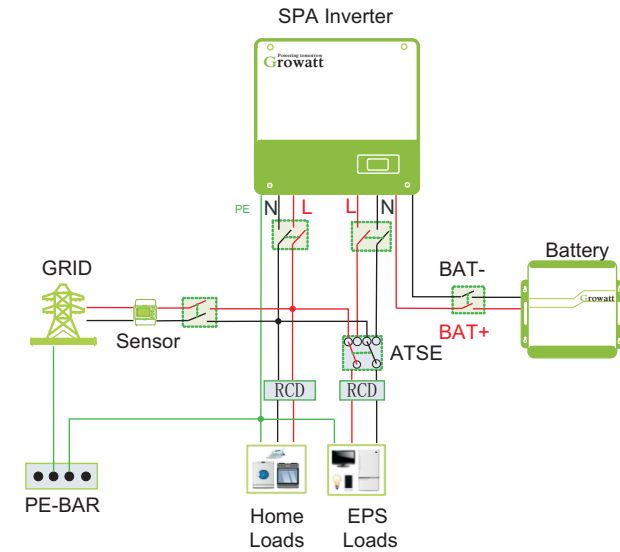

Fig 5.14
- If you want to use both on grid power and back up power ,please refer to Fig 5.14 and 5.15. connect with AC grid and EPS OUTPUT like the chart show.
- If you want to use on grid and off grid, you can use ATS (Automatic transfer switch) or EPS Changeover Switch(Manual switch) like Fig 5.14 and 5.15 before or ask Growatt for help to connect them.